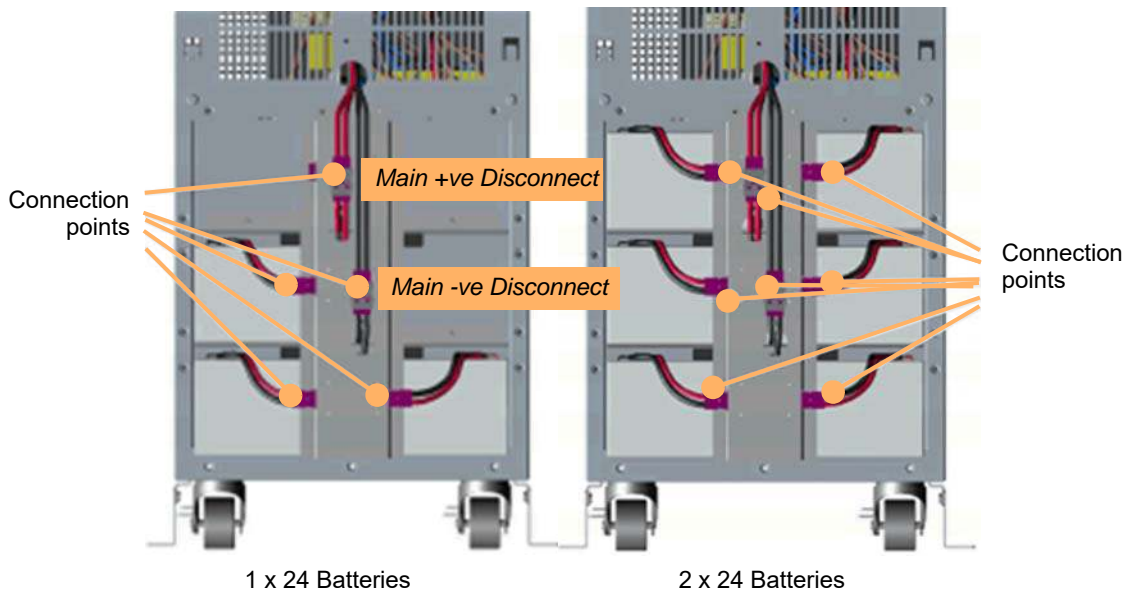

Figure 3.12 UPS Cabinet internal batteries
1. Disconnect the UPS internal batteries at the 'Main + Disconnect' and 'Main – Disconnect' points shown in Figure 3.12.